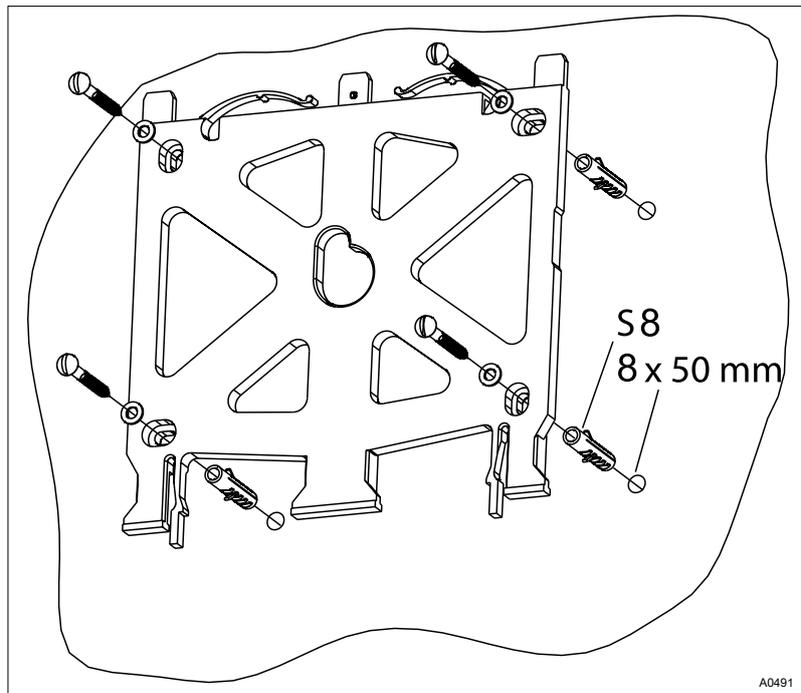

Fig. 18: Fitting the wall bracket
5. ➤ Screw the wall bracket into position using the washers, see Fig. 18